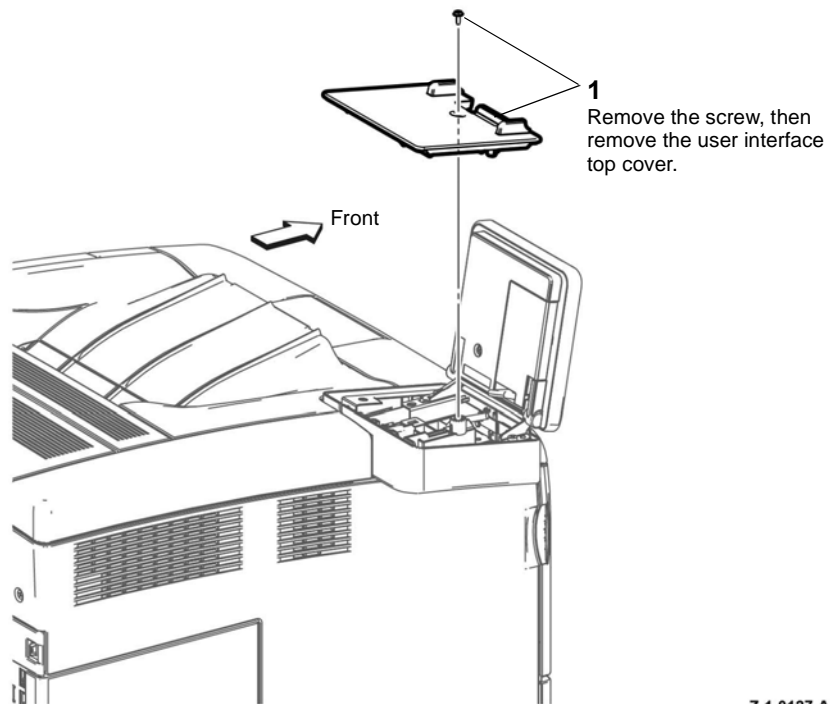

Figure 1 User interface top cover C400
1. Remove the user interface top cover, Figure 1.